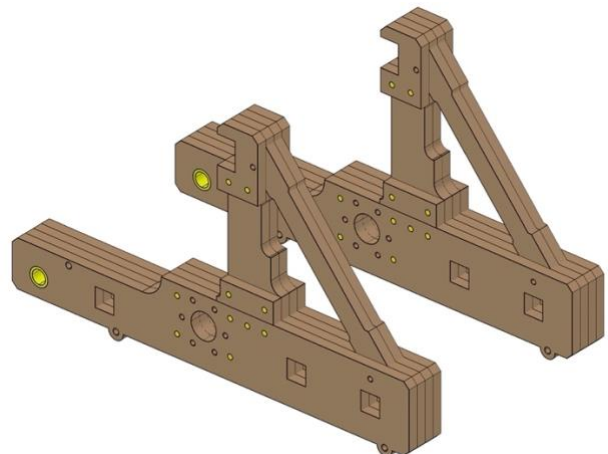

Fig. 16
- *Fig. 16* shows the completed process (make two parts).